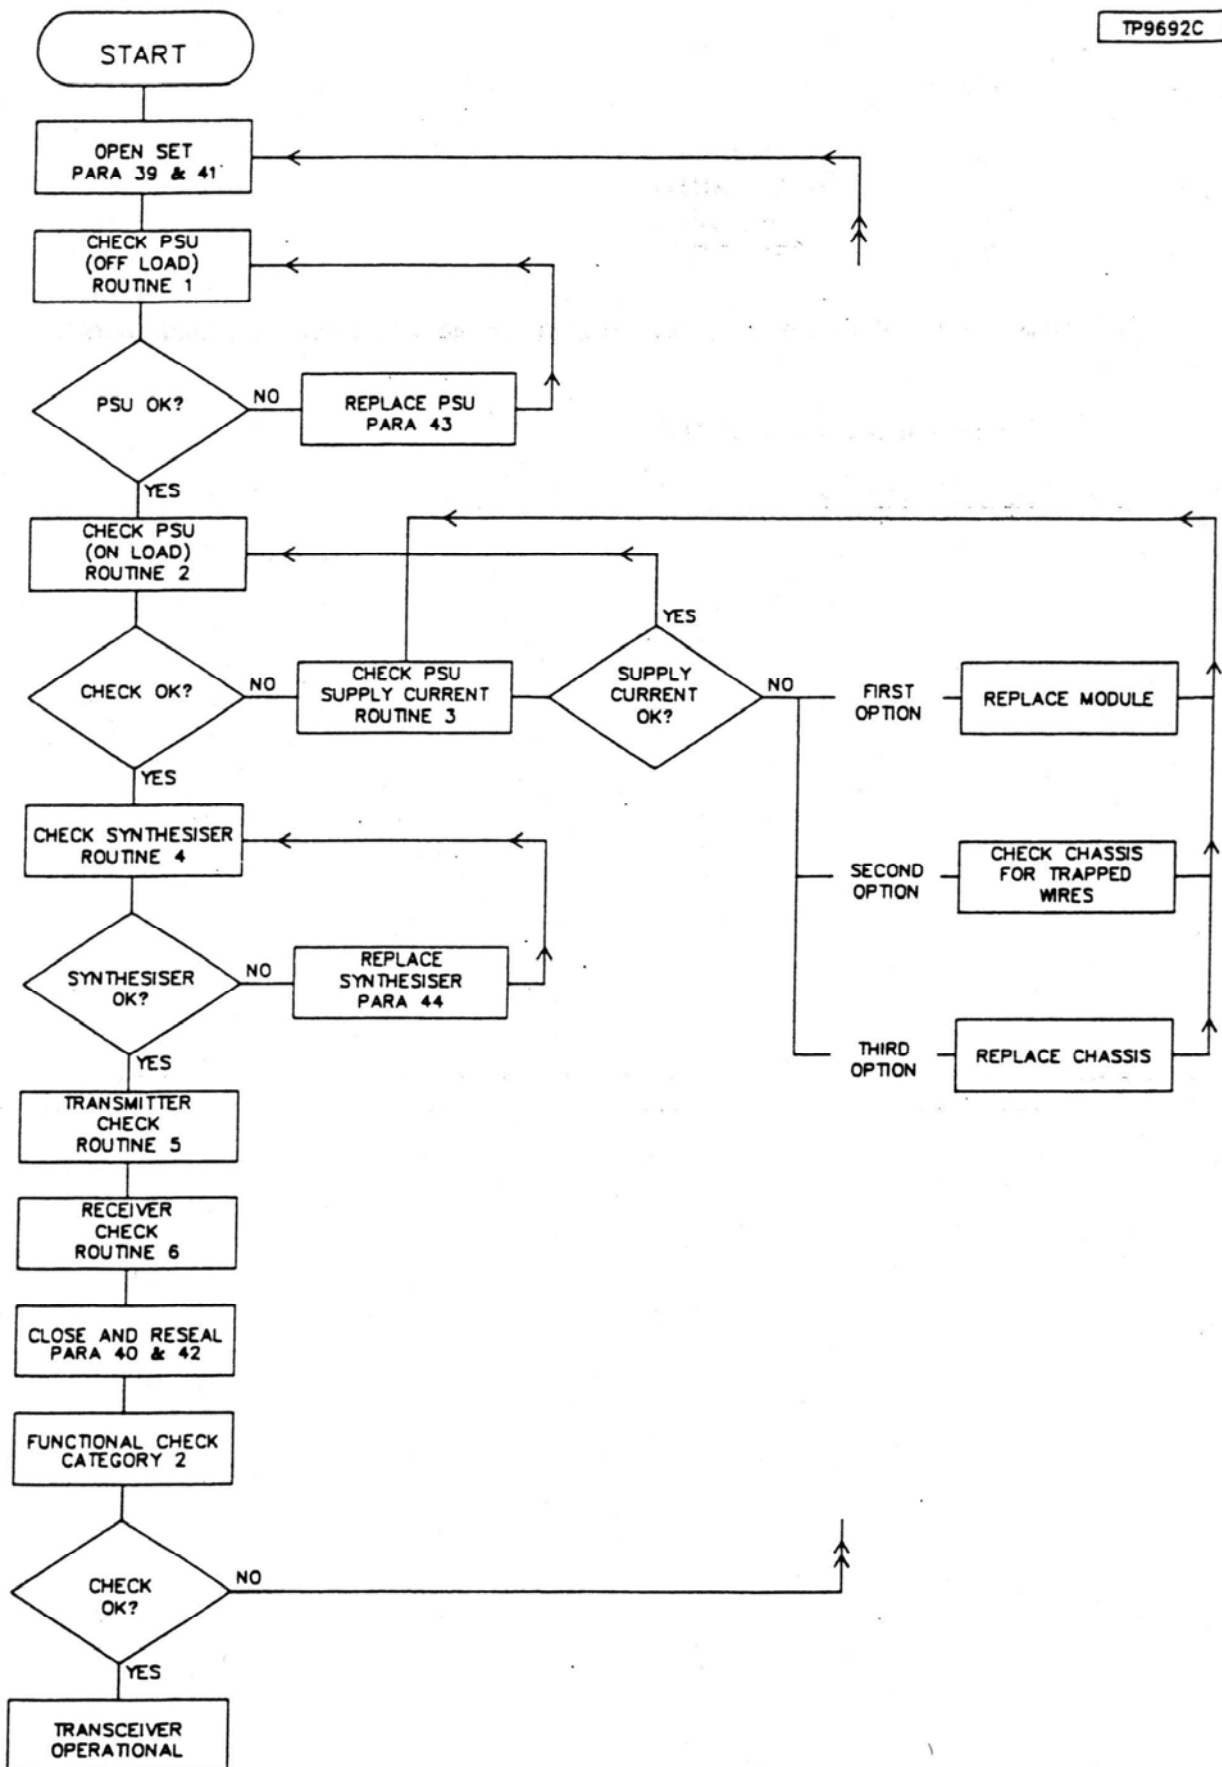

Fig 5.1.3 Overall Functional Check - Flow Diagram
18 The transceiver functional checks follow a series of Test Routines (Tables 5.1.2 to 5.1.10). The sequence in which these test routines must be conducted is shown in Fig 5.1.3, and the Test Routines for the transmitter and receiver checks are expanded in Fig 5.1.4. At the conclusion of each routine, return to Fig 5.1.3 for an indication of the next routine to be conducted, or action to be undertaken.
- (5) Connect handset to AUDIO 2.
- (6) Refer to Fig 5.1.3.
16	Refer to Fig 5.1.3
2	Connect cable CX 2012 to the test set. Note: Black and red leads are connected, in turn, across red terminals above and below the five OC/SC switches on the test unit (black lead to top terminal). Measurements are taken by setting the appropriate OC/SC switch to OC. After each measurement, return the OC/SC switch to SC. If, at the end of a particular test, any indication is incorrect, refer to the options shown on Fig 5.1.3 and take appropriate action with the unit most recently connected.
25	Refer to Fig 5.1.3